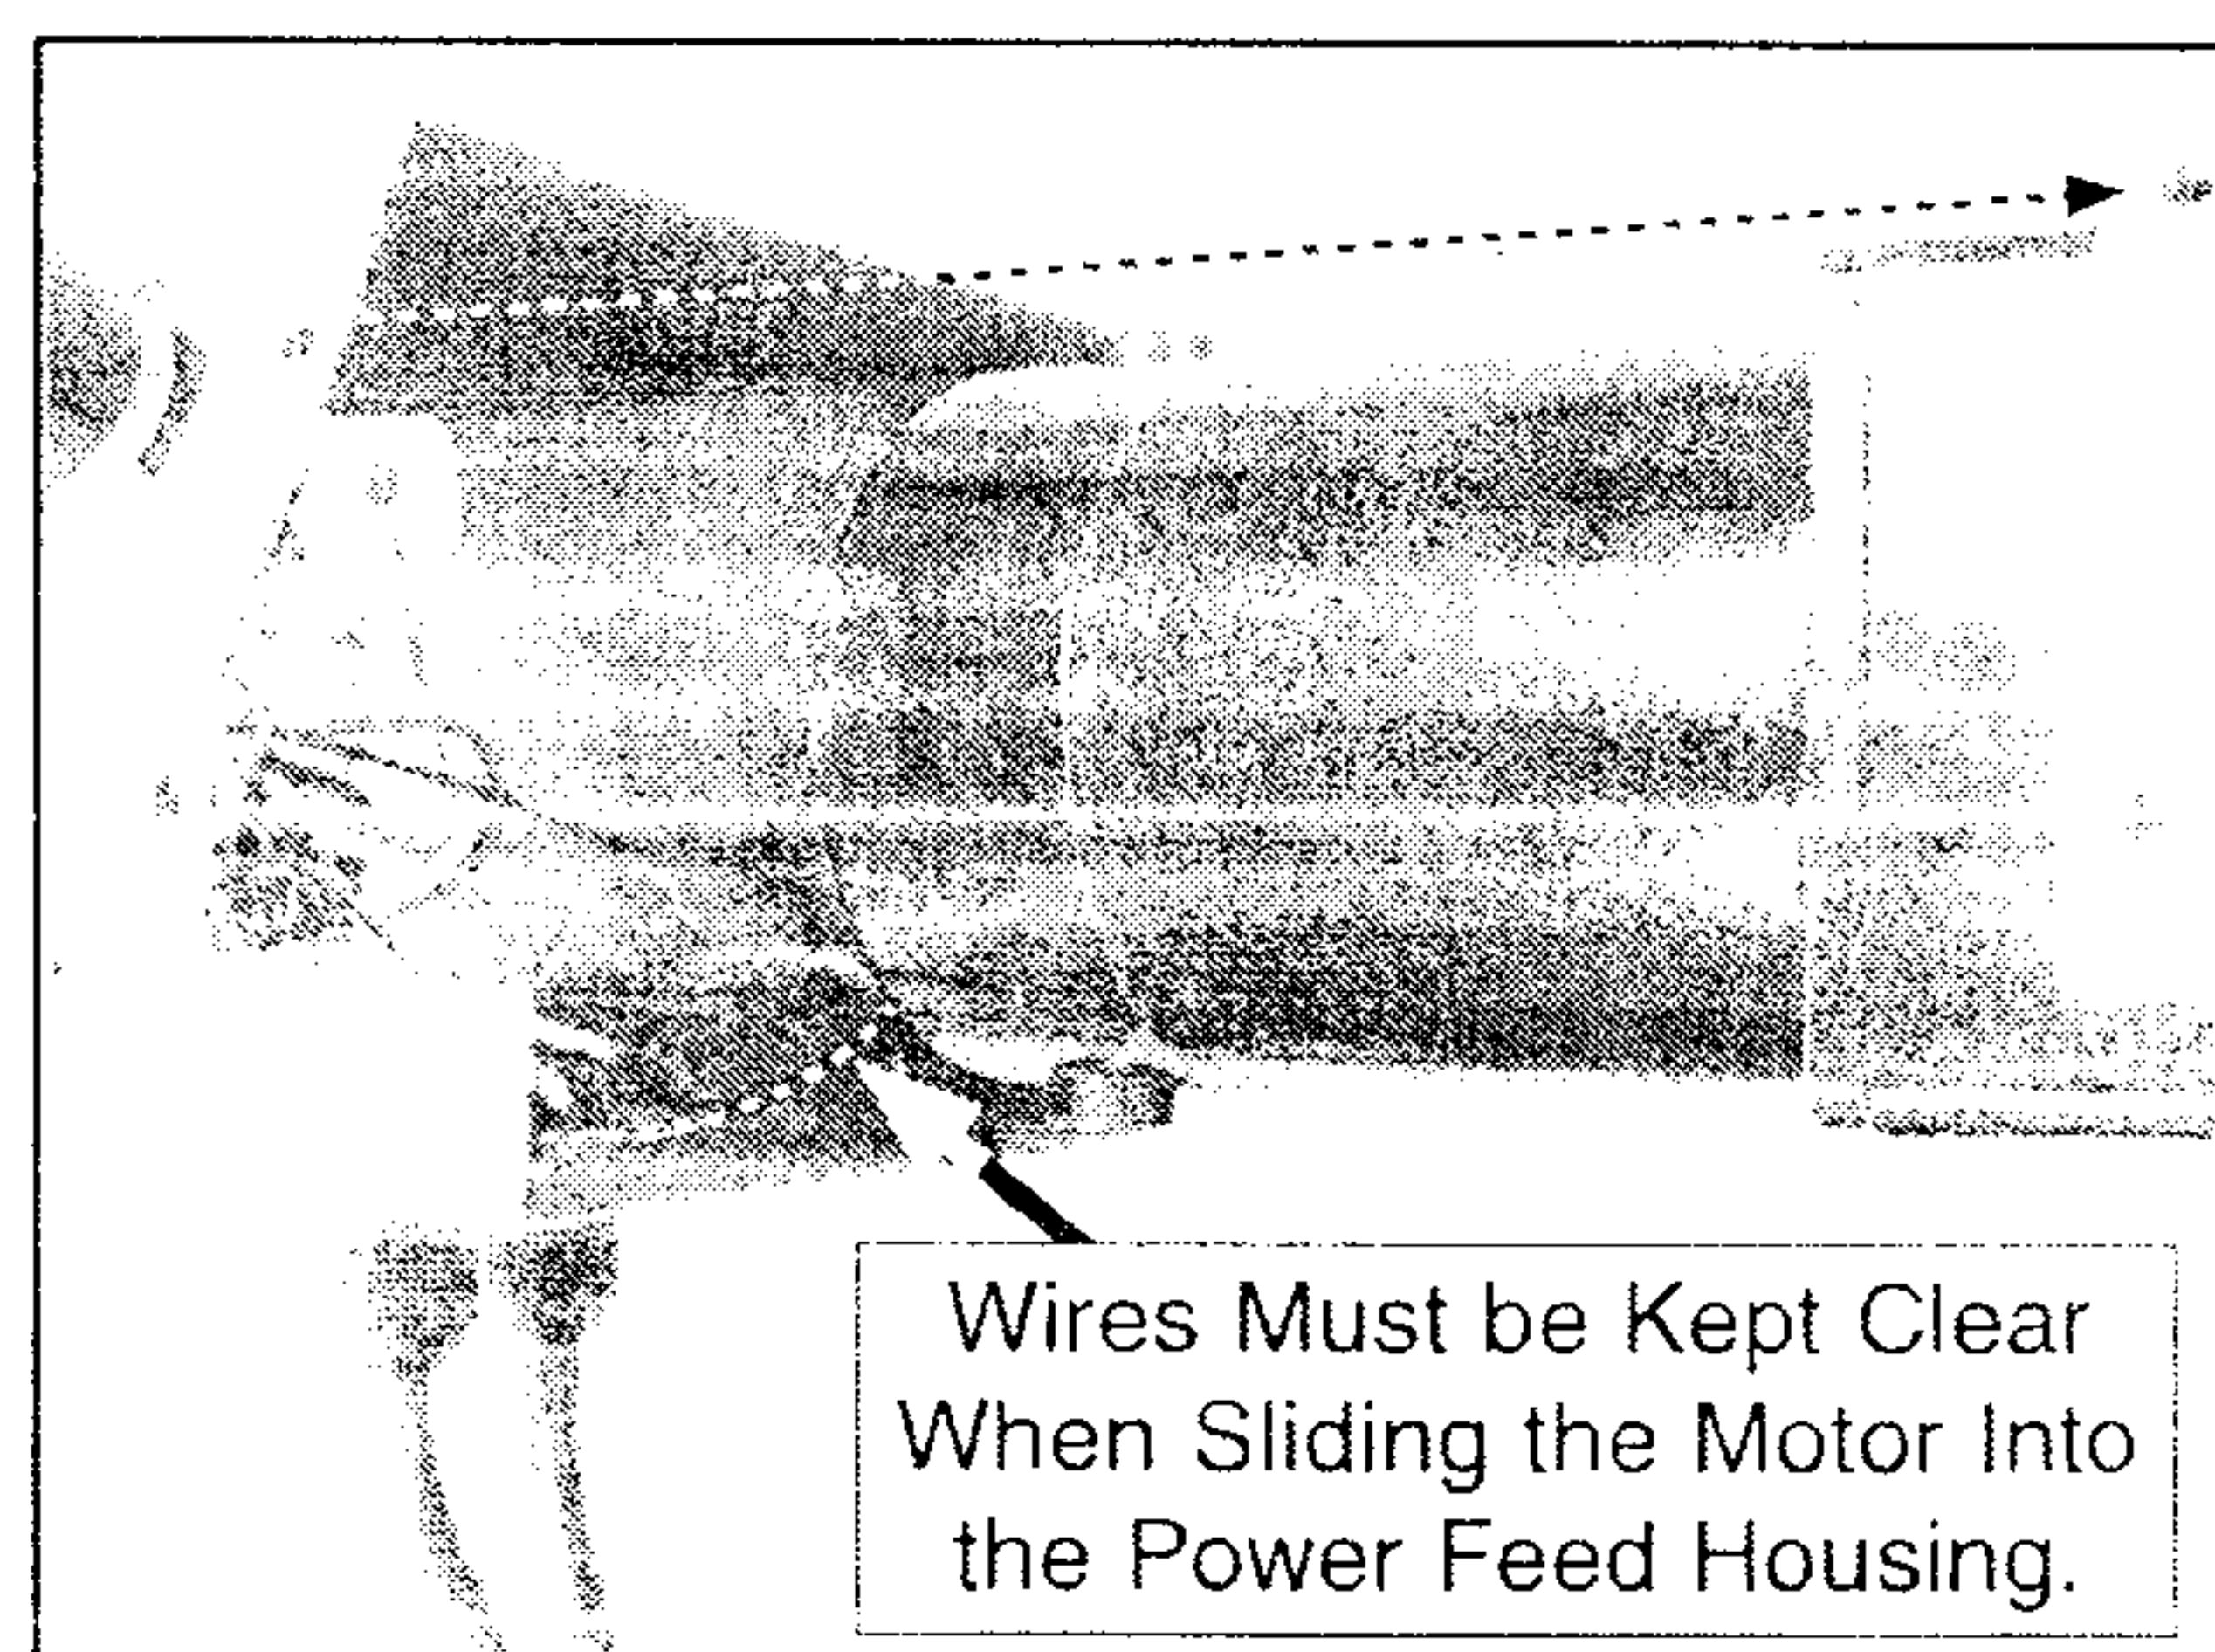

Figure 15. Final assembly.
22. Being careful not to crush or bind the circuit board wires, slide the power feed housing onto the end of the motor (Figure 15).